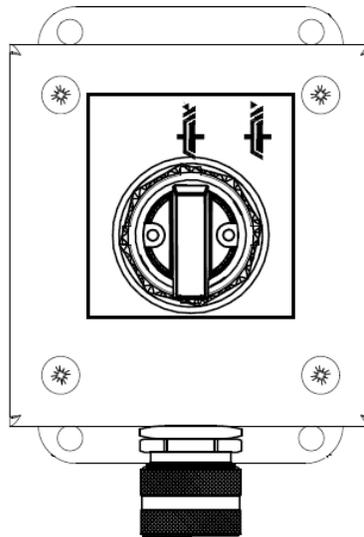

Figure 5.12 - Clutch Brake Release Switch
4. With the engine off and the clutch brake release switch (Figure 5.12) turned on, a small electric pump will start. The switch will illuminate red to indicate the pump is on.